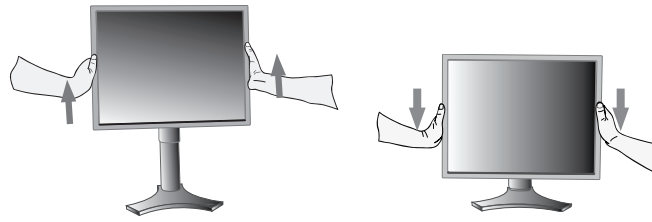

**Figure E.1**
9. The Vacation Switch on the left side of the monitor must be turned on. Turn on the monitor with the front power button (**Figure E.1**) and the computer.